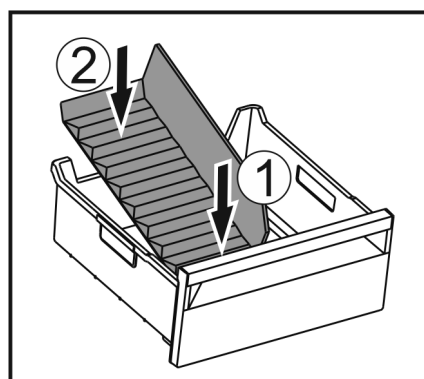

Fig. 238
- ▶ Insert the front part of the ice compartment divider. Fig. 238 (1)
- ▶ Lower the rear part of the ice compartment divider to the drawer bottom. Fig. 238 (2)